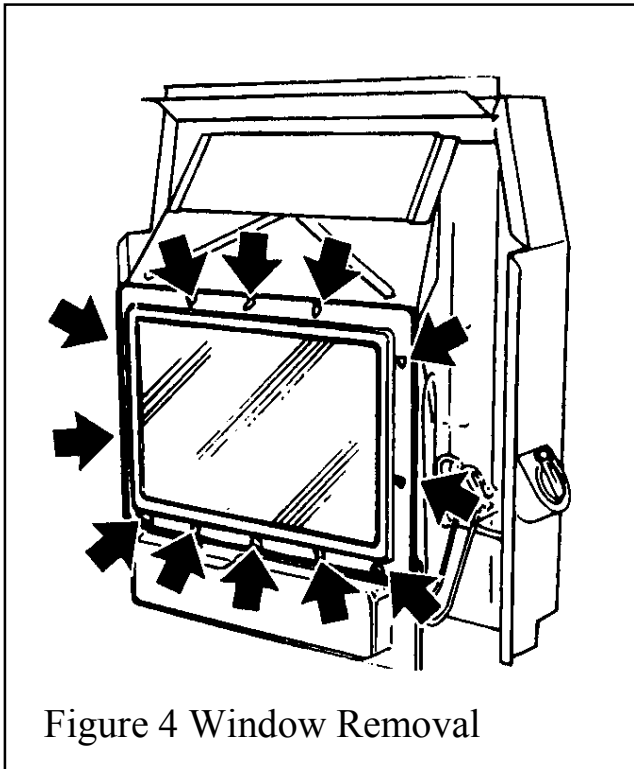

Figure 4 Window Removal
- 4.4 Remove the window unit by detaching the 12 wing nuts securing the window frame (see figure 4) and pulling forward.